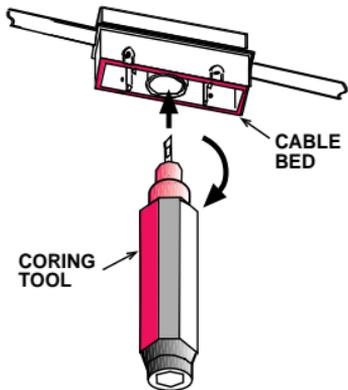

Figure 2-5. Drilling the Ethernet Cable
5. Drill a hole in the cable for the center probe. Insert the drill end of the hand coring tool into the center hole and apply pressure while twisting the coring tool clockwise (see Figure 2-5). When the coring tool turns freely, remove the coring tool. (The coring tool has a stop to prevent over-drilling.) Remove debris by holding the tap with the cable bed facing down and tapping lightly on the side of the tap. Do not blow into the hole to remove debris. Examine the hole to be sure that it is free of debris.